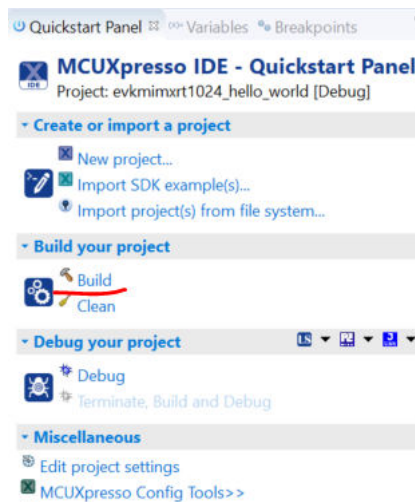

Figure 34. Building hello world case
6. On the **Quickstart** panel, click **build evkmimxrt1024_demo_apps_hello_world [Debug]**, as shown in Figure 34.